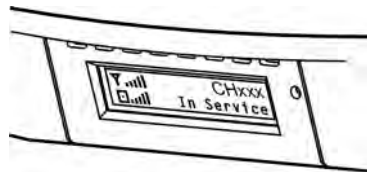

Figure 3.7: Displayed Signal Strength and Coverage Area
4. Place the CU in the location showing maximum number of bars (see Figure 3.7: "Displayed Signal Strength and Coverage Area"). In the event the number of bars is not changing, which is very possible, choose a location that is most convenient.
4. Place the Auxiliary CU in the location showing maximum number of bars (see Figure 3.7:“Displayed Signal Strength and Coverage Area”). In the event the number of bars is not changing, which is very possible, choose a location that is most convenient.